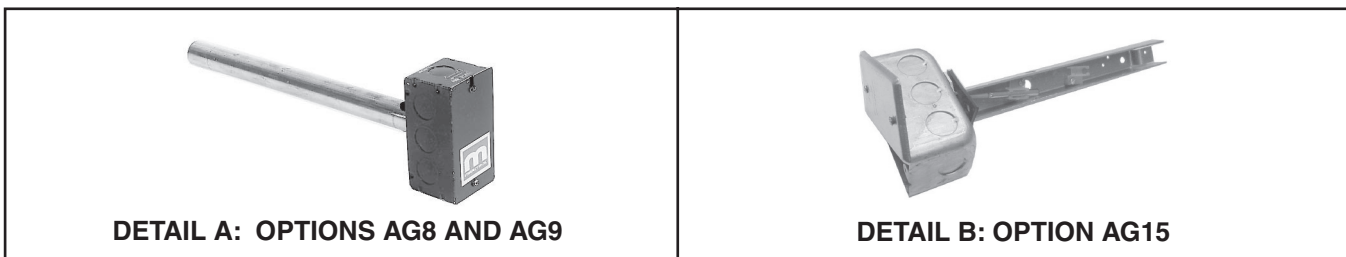

Figure 15. Discharge Air Temperature Sensor
- Makeup air options AG8, AG9, and AG15 (see **Figure 15**) require field installation of the sensor in the discharge ductwork.
- a. Position of sensor in duct is also important—mixing tube shown in Figure 15, DETAIL A is 12 inches (305 mm) long and holder shown in Figure 15, DETAIL B extends 9-3/16 inches (233 mm) into ductwork.
- d. For units with option AG8 or AG9, slide mixing tube (see Figure 15, DETAIL A) into ductwork and attach sensor.
- e. For units with option AG15, push element into clip in holder (see Figure 15, DETAIL B), slide holder into ductwork, and position holder so that it shields sensor from direct airflow. Secure box portion of holder to ductwork using four field-supplied #6 sheet metal screws.